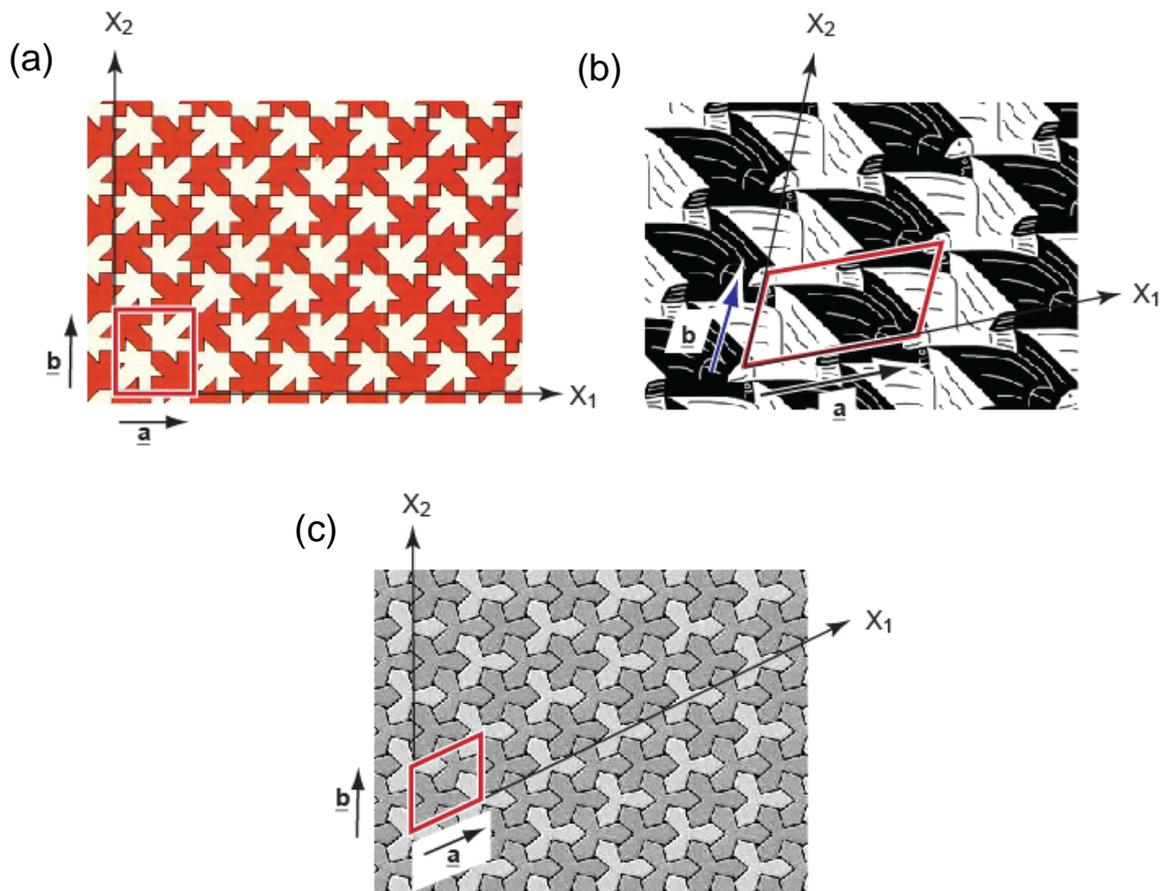

Figure C15. The translation vectors and primitive unit cells of the three patterns.
**E8.** The Escher leaf-pattern has a square lattice with point group symmetry  $4mm$ . The basis is made up of 4 leaves, two white and two red. The asymmetry of the basis gives the structure only one mirror plane instead of two (Figure C15(a)). The Escher birds fly on an oblique lattice with a point group symmetry of 2 (Figure C15(b)).
**E9.** The tile has a hexagonal lattice with point group symmetry  $6mm$ , The basis has only 3-fold (trid) symmetry, reducing the symmetry elements of the structure to  $3m$  (Figure C15(c)).